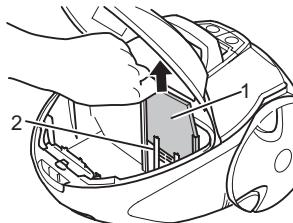

Fig.22
2. Pull the protective motor filter (Fig. 22/1) up out of the receptacle (Fig. 22/2).